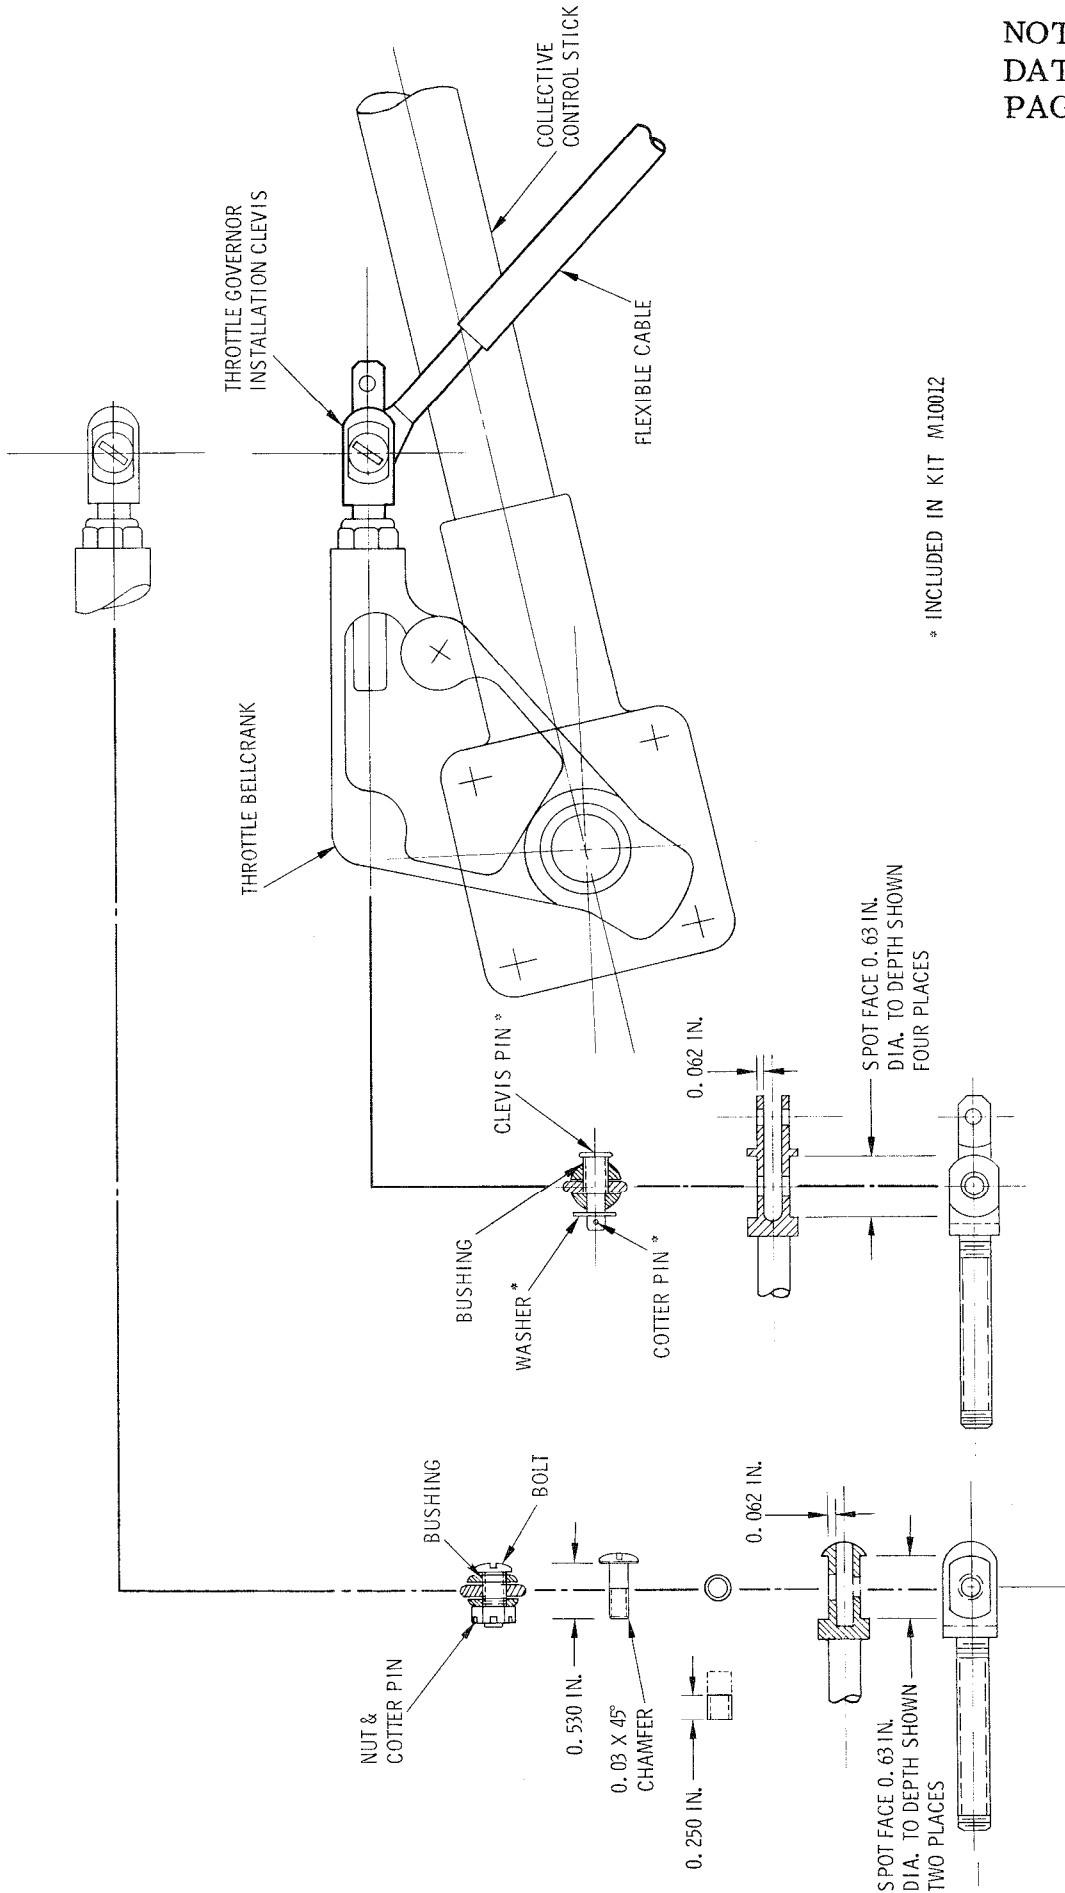

FIGURE 2. THROTTLE ATTACHMENT MODIFICATION
- h. Remove hardware attaching throttle flexible cable to bellcrank. (See Figure 2)
- k. Modify clevis as shown in Figure 2.